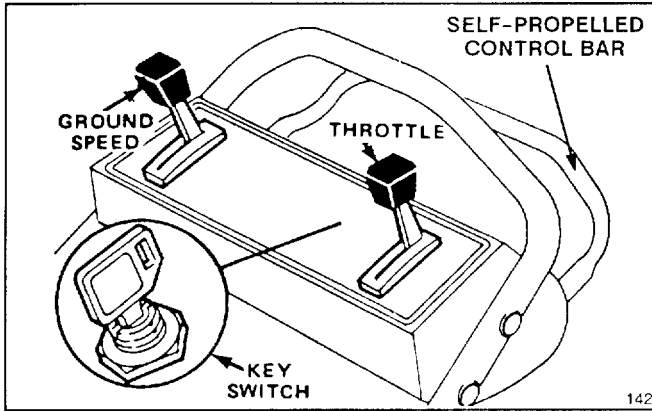
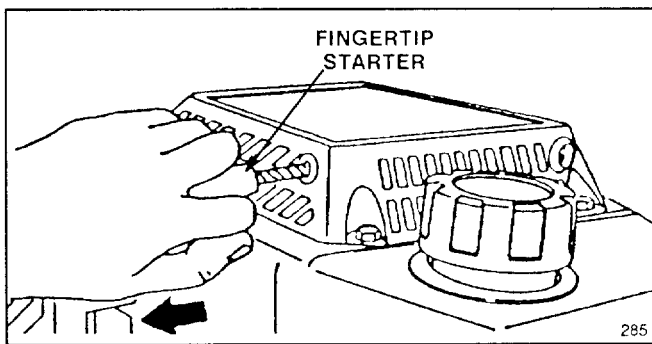

Figure 5
Figure 6
1. **CONTROLS**—Key switch (electric start model only), ground speed control, throttle, and blade/self-propelled control bar are on upper handle (Fig. 5). Fingertip starter is on top of engine (Fig. 6).
4a. **KEY-ELECTRIC STARTING** (electric start model only) — Move throttle to CHOKE. Turn key to START and release when engine begins running. When engine starts, remove throttle from CHOKE and regulate as desired. If the battery's charge is too weak to start the engine, the engine can be started with the fingertip starter (Fig. 6).
5. **GROUND SPEED** (Fig. 5) — Move ground speed control to desired setting. Number "1" is slow, "2" is medium, and "3" is a fast walking pace. Move ground speed control to "N" when using the mower for trimming and whenever leaving the mower.